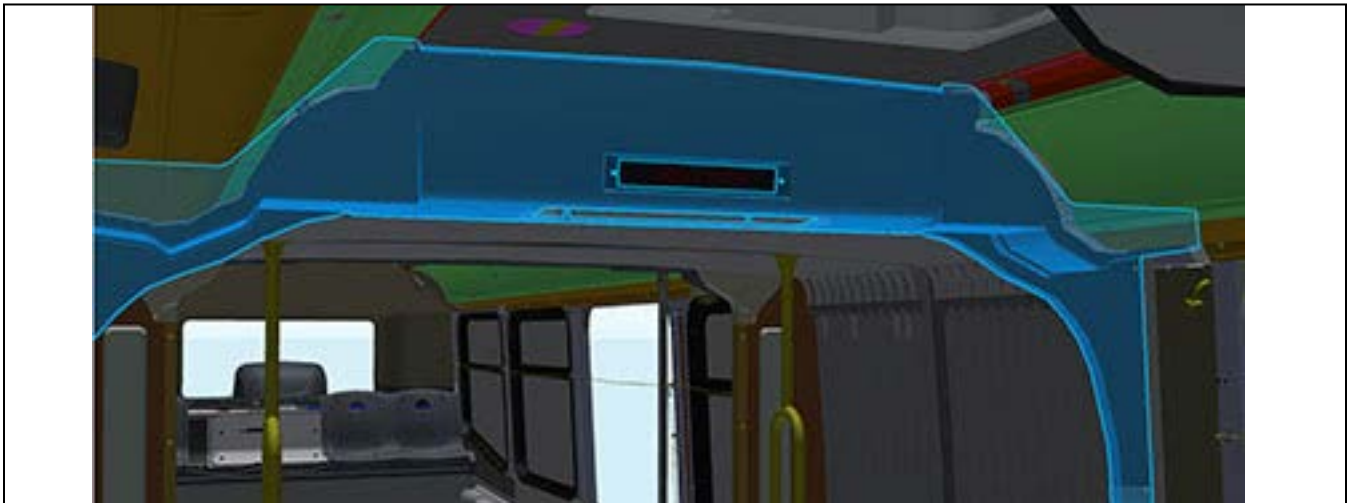

Figure 1 - Articulation Front Bulkhead to be Removed
- 1.2. Remove the front bulkhead. Reserve the front bulkhead and hardware. See Figure 1